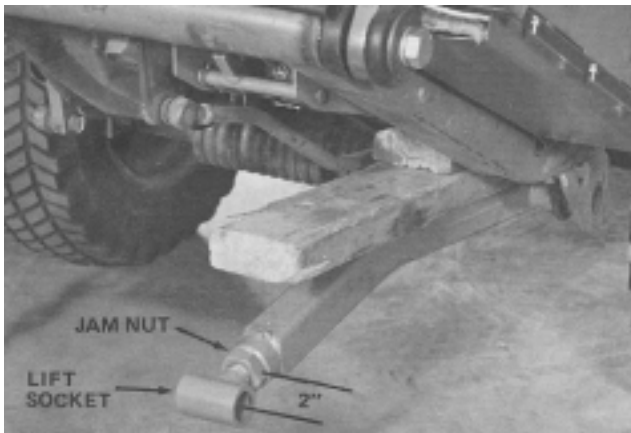

Figure 1
3. Install lift socket into left side push arm. Adjust lift socket so there is two inches from center line of socket to front surface of push arm (Fig. 1). When lift socket is adjusted correctly, bottom jam nut (Fig. 1) is against front of lift arm.